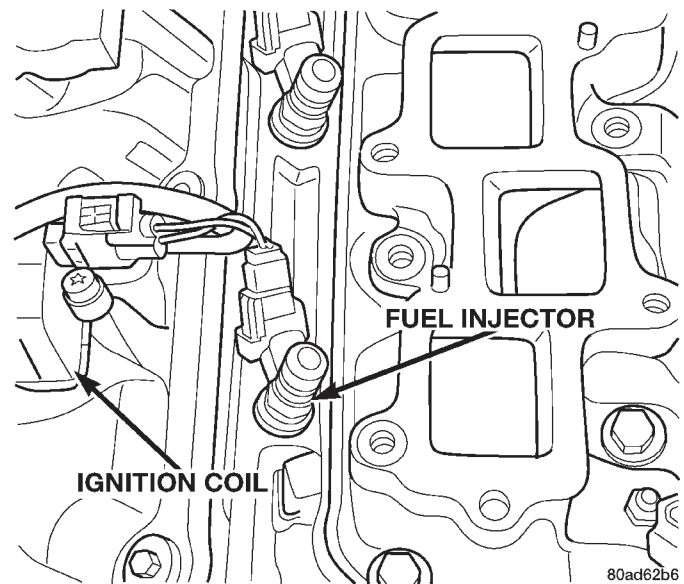

Fig. 21 Injector Electrical Connectors
(1) Release fuel system pressure. Refer to Fuel System Pressure Release Procedure in this section.
(2) Disconnect the negative battery cable.
(3) Remove intake manifold plenum. Refer to Group 11, Exhaust System and Intake Manifold for intake removal.
(4) Remove intake manifold plenum mounting bolts. Lift Plenum up off of engine. Cover intake manifold to prevent foreign material from entering engine.
(5) Disconnect fuel supply tube quick connect fitting at the rear of the fuel rail.
(6) If the injector connectors are not tagged with their cylinder number, tag them to identify the correct cylinder (Fig. 21).
(5) Disconnect fuel supply tube quick connect fittings at the rear of intake manifold. Refer to Quick Connect Fittings in the Fuel Delivery Section of this Group.
(7) Remove electrical connectors from the fuel injectors.
(8) Remove mounting bolts on both sides of fuel rail.
(9) Lift fuel rail straight up off of cylinder head.
(10) Remove retaining clips from fuel injectors at fuel rail.
(11) Remove fuel injectors.